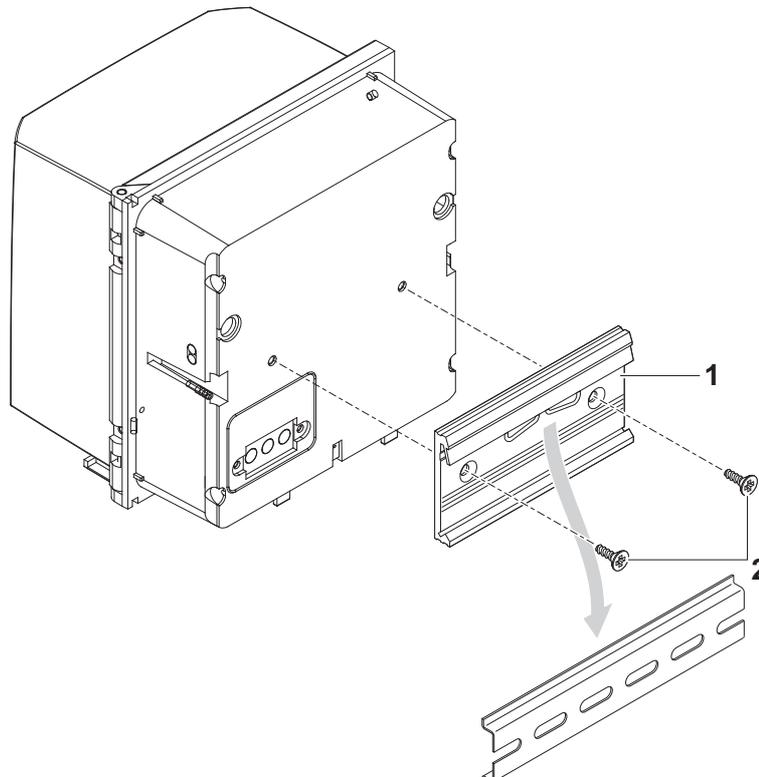

figure 3-22 Mounting the DIQ/S 281 on a top hat rail
- 1 Screw the clamping assembly (pos. 1 in figure 3-22) on the back of the universal transmitter with the two plastic tapping screws (pos. 2).